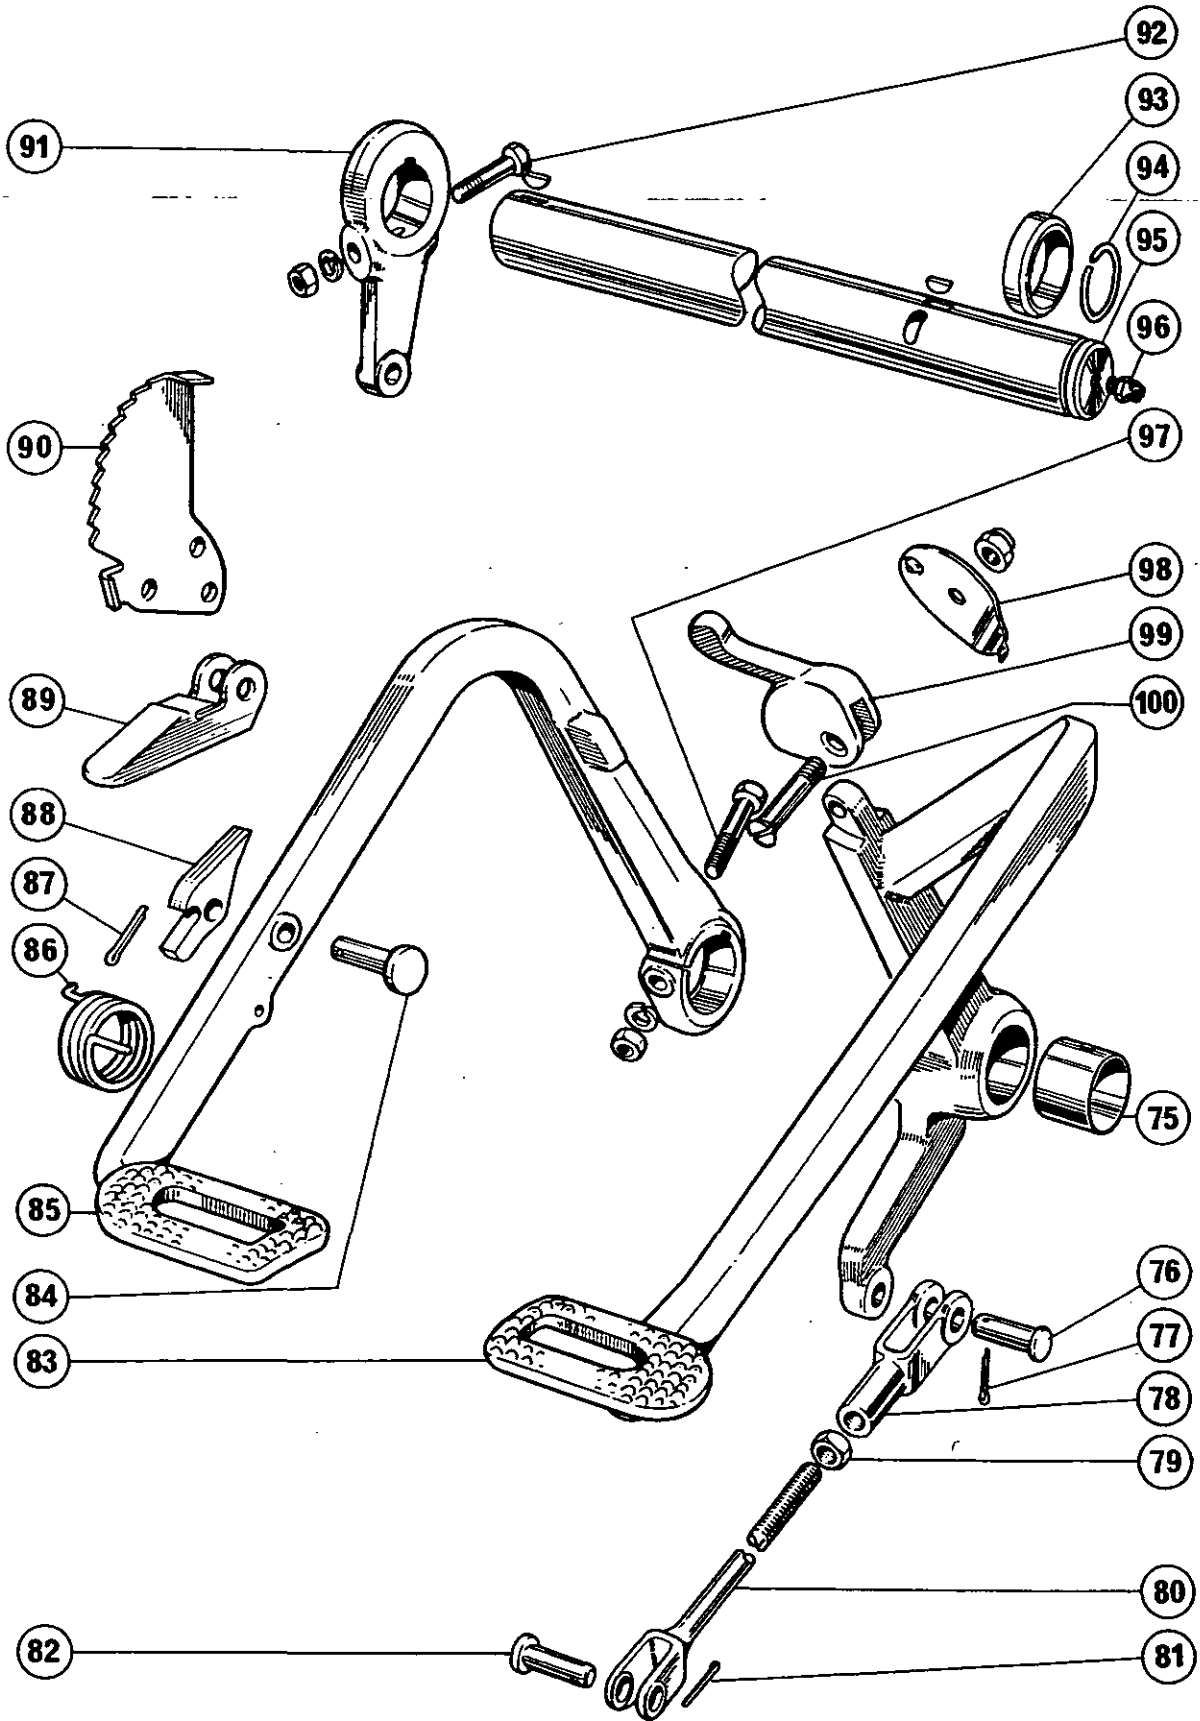

FIG. 32
1. Fig. 32. Remove the split pin (77) and the clevis pin (76) securing the brake rod to the R.H. pedal (83).
2. Remove the split pin and clevis pin securing the L.H. brake rod to the cross shaft arm (91).
3. Remove the split pin (81) and the clevis pin (82) securing the brake rod (90) to the R.H. brake camshaft lever.
4. Repeat item 3 for the L.H. brake camshaft lever pull rod.
5. Remove the snap ring (94), and the washer (93), then slide the R.H. brake pedal off the cross shaft (95).
6. Slacken the pinch bolt (92) securing the L.H. cross shaft arm (91), then pull off the arm.
8. Remove the pinch bolt (97), nut and spring washer, securing the L.H. brake pedal (85) then slide the pedal off the shaft. Remove the Woodruff Key.
9. To remove the locking latch (99), remove the screw (100) and lift off the latch (99) and plate (98). To service the parking latch see operation 5A-24-20.
Fig. 32. The parking latch is secured to the L.H. brake pedal by a clevis pin (84) and split pin (87). To disassemble the latch, remove the split pin and clevis pin. This then frees the latch (89), pawl (88) and spring (86). The sector (90) is secured to the transmission case by three bolts.